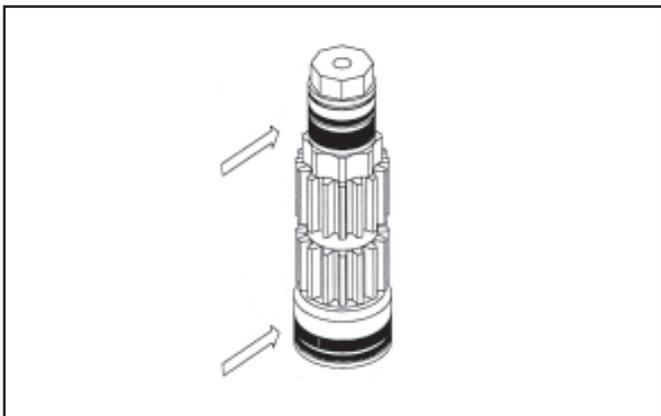

Fig. 20
Drive shaft assembly (30): (Figures 20, 21a and 21b)
- Grease the outside surface of the drive shaft on top and bottom as shown in figure 20.
- Insert partially the drive shaft (30) in the body (29).